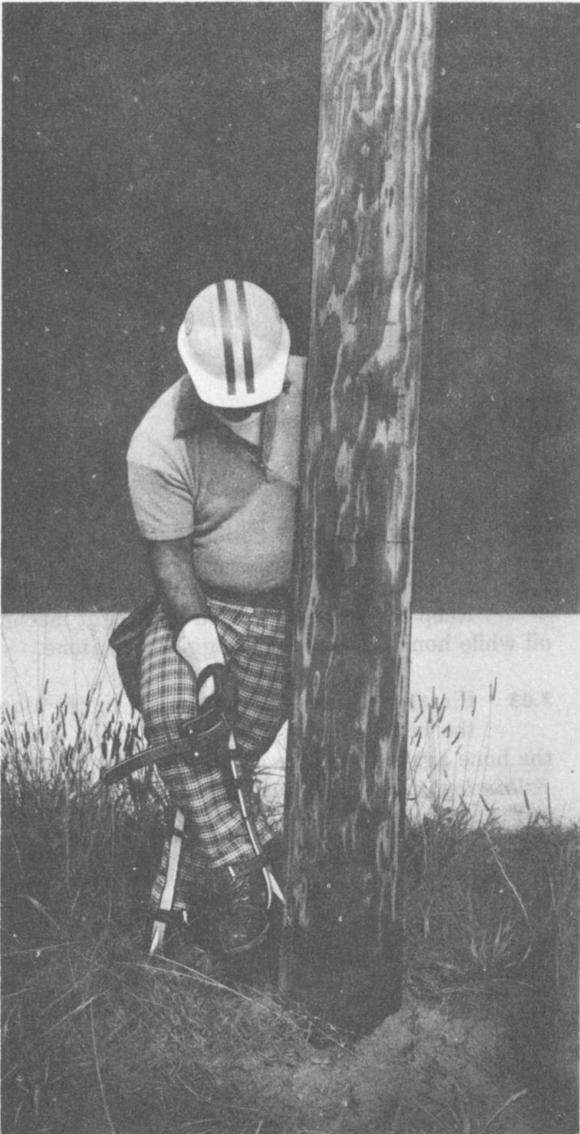

Fig. 13—Jabbing Gaff in Pole
- (1) Place the climber on the leg and fasten the foot strap in the usual manner. Do not fasten the leg strap.
- (2) Remove the gaff guard and put on your gloves. Place your hand between your leg and the climber pad, palm facing the pole. Place the other hand around the pole to balance yourself. With your leg at about a 30 degree angle, the normal climbing angle, aim the gaff toward the center of the pole about one foot above the ground line. Lightly jab the gaff in the pole, so that it penetrates the wood about 1/4 inch, see Fig. 13. Do this at a location where the pole is free of cuts and knots.